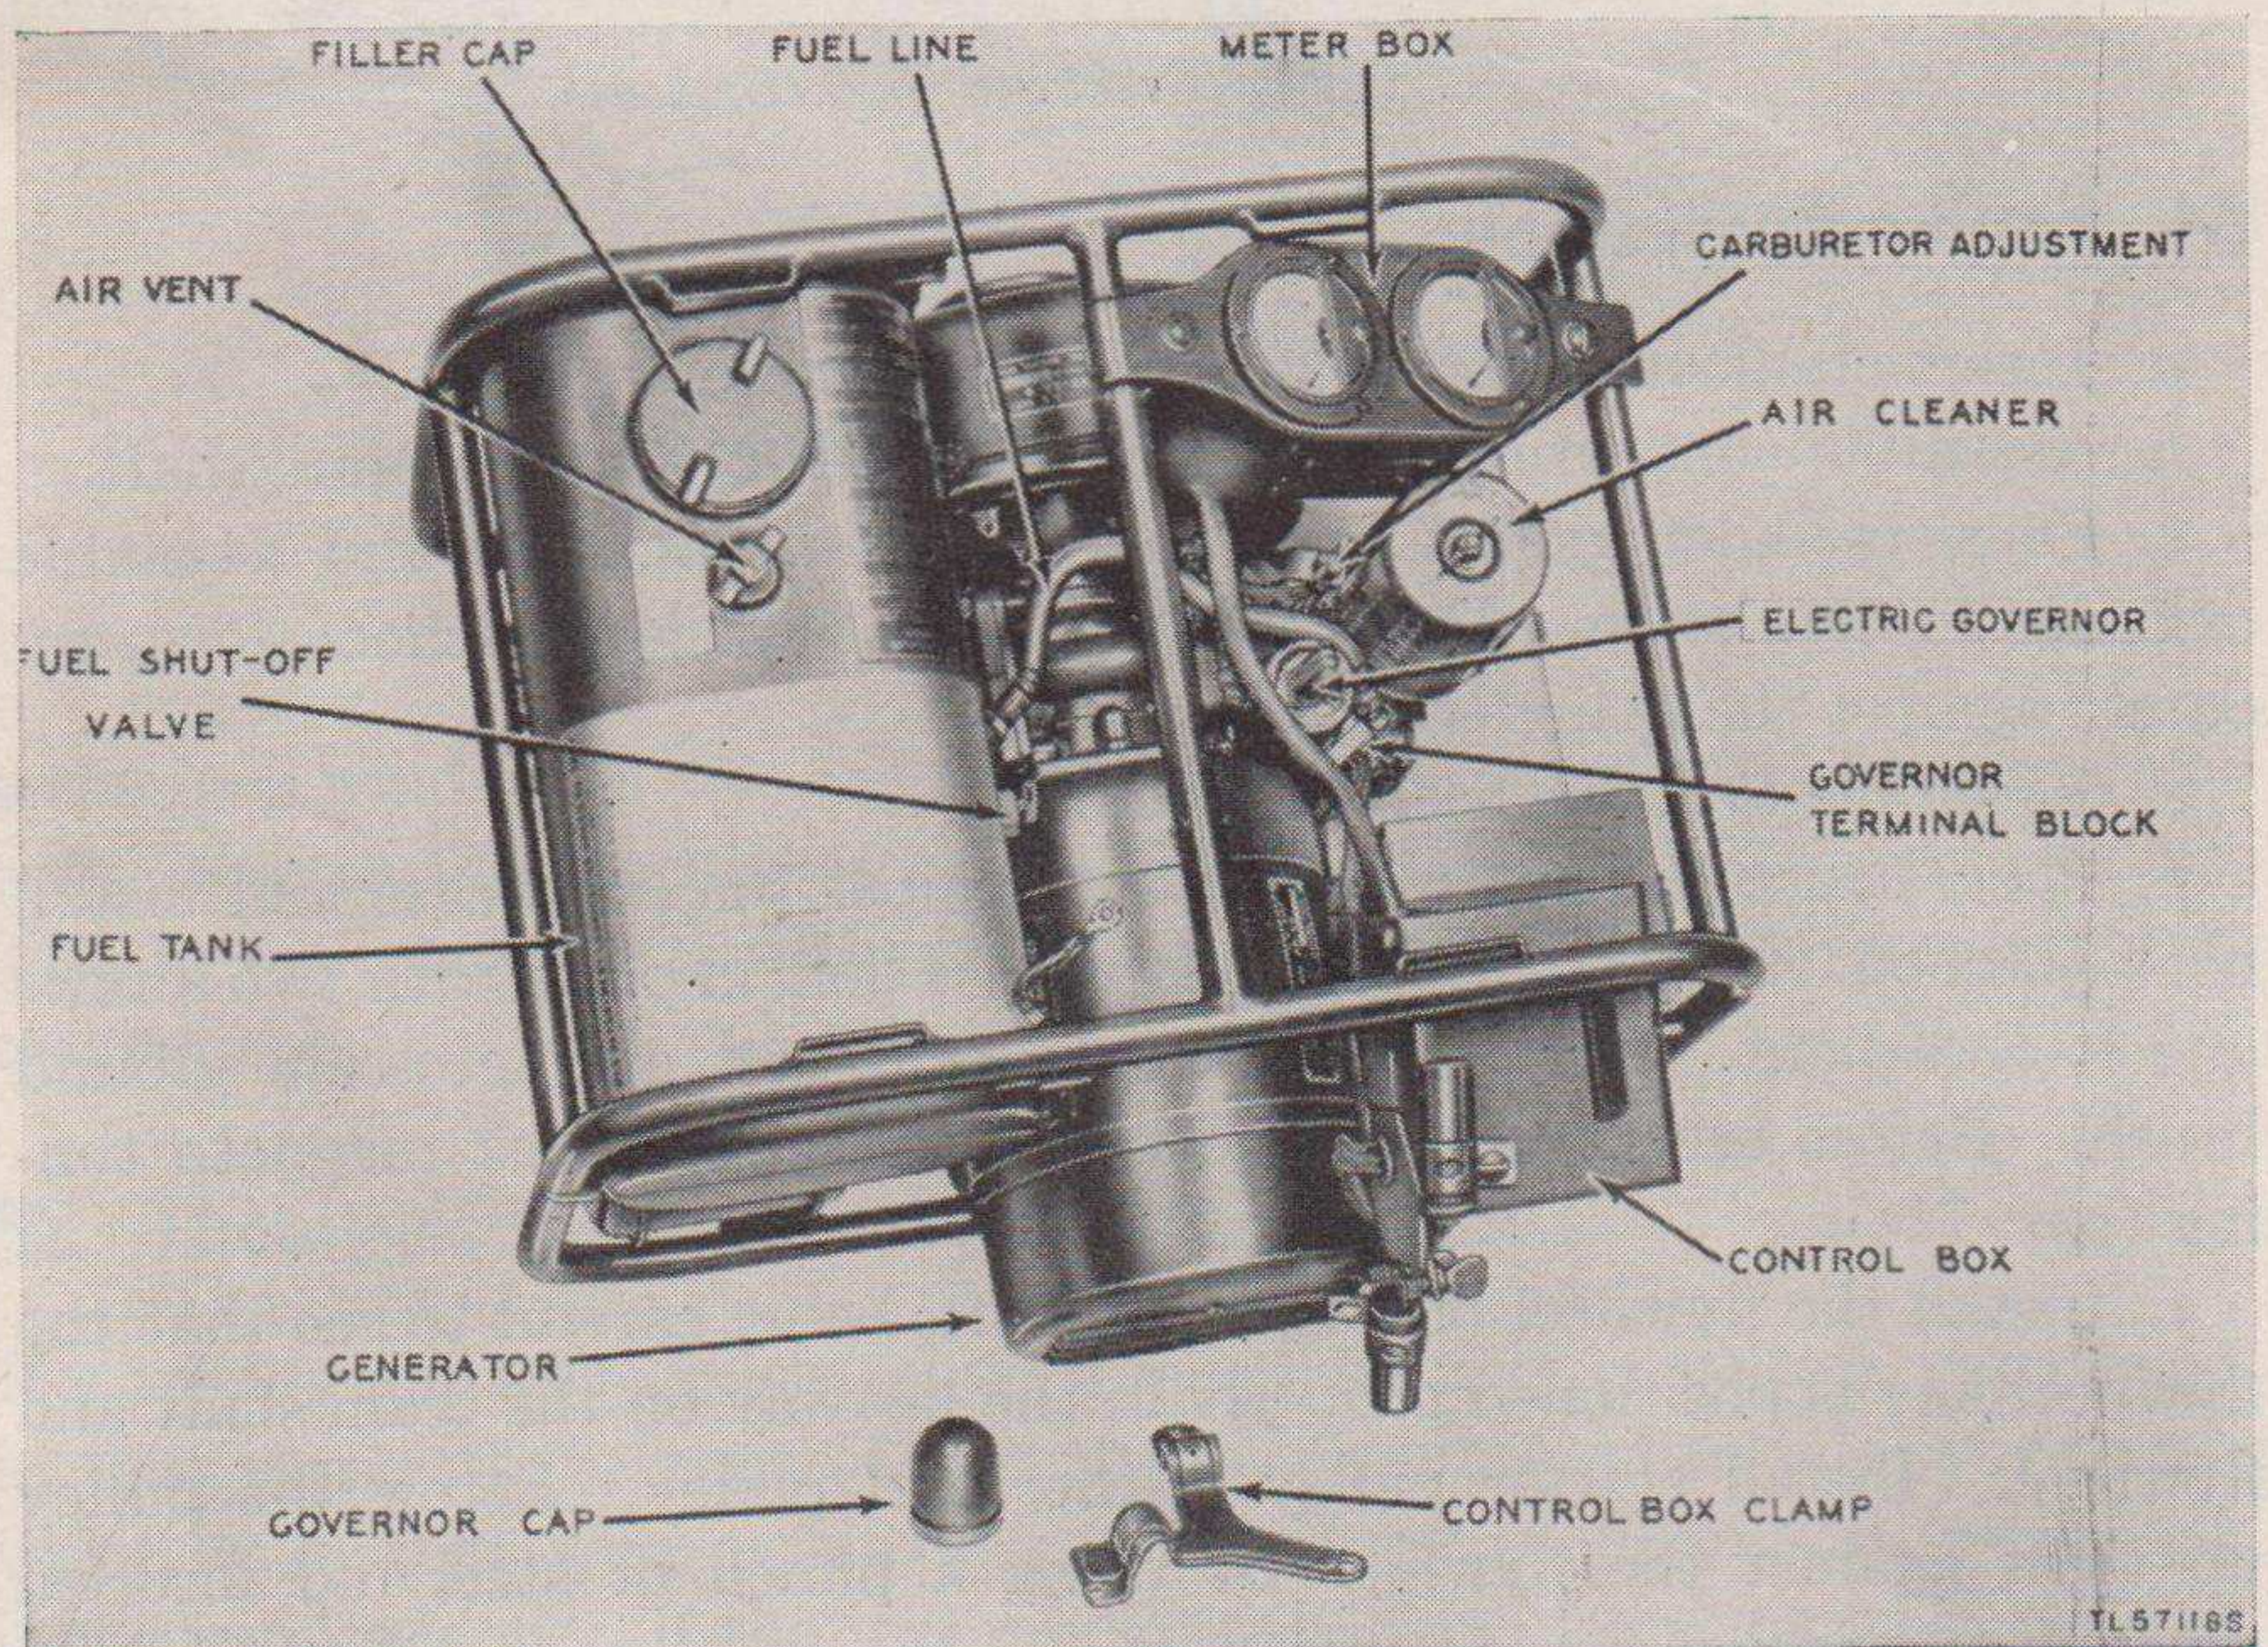

Figure 20. Fuel system and governor wiring connections.
- (1) *Removal.* Remove engine and generator from tubular frame as follows:
- (a) Close fuel shut-off valve (fig. 20) and disconnect fuel line at carburetor.
c. Connect leads from the generator to the electric governor (fig. 20). Insert the engine and generator assembly in power unit frame and attach to subframe with the four screws and lockwashers. Place the lockwashers between the engine and the subframe as well as under the screw
a. REMOVAL (fig. 20). Remove the air cleaner and disconnect the fuel line from the carburetor float bowl. Disconnect the lead wire at the electric governor. Remove the four screws holding the carburetor to the crankcase, lift off the carburetor, and remove the gasket.